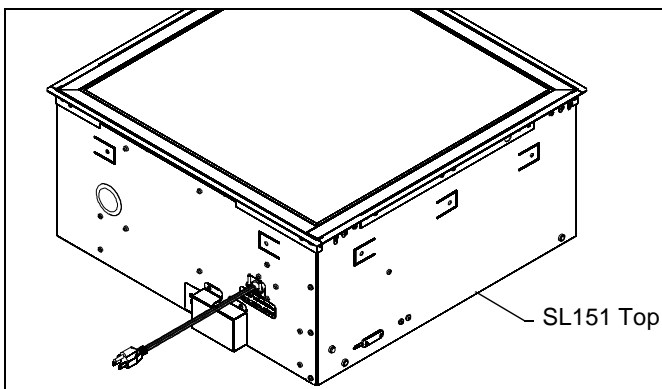

Figure 1
2. Place SL151 upside down on clean surface. (See Figure 1)